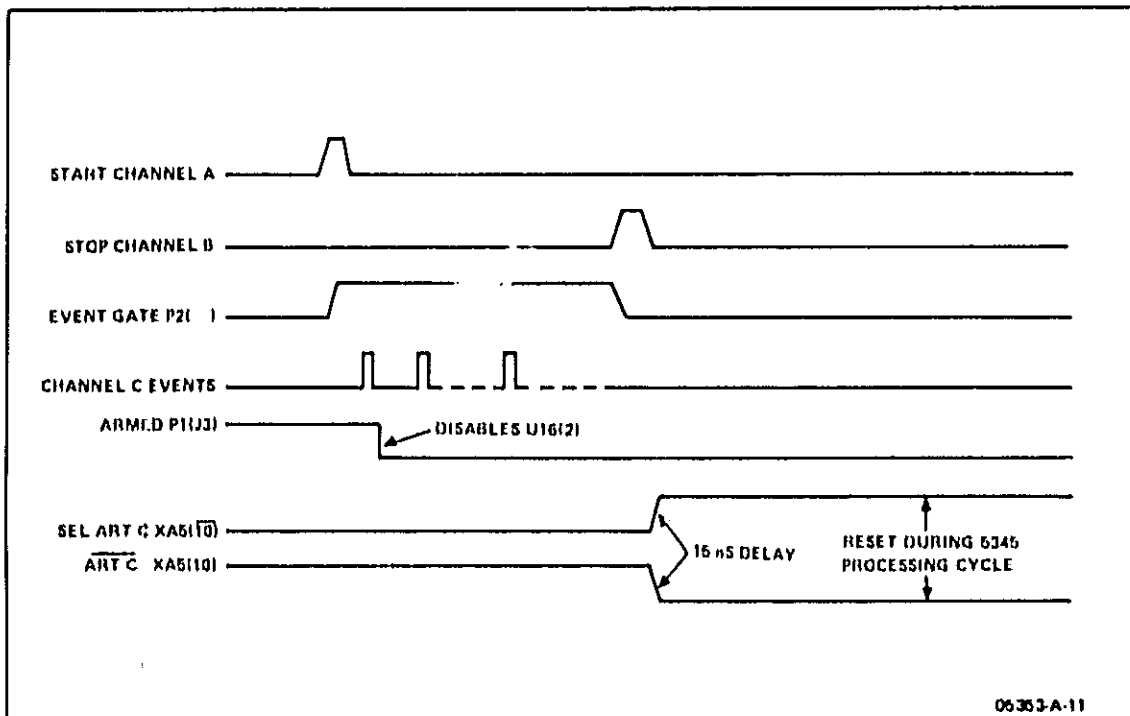

Figure 4-2. Events C, A to B Timing Diagram
high after approximately 60 nsec from the time the event gate goes low, U16(6) goes low and puts the mainframe into its PI Data routine. The counter will be in a measurement situation and is forced out of the measurement loop. Figure 4-2 shows the timing diagram for the Events C, A to B.